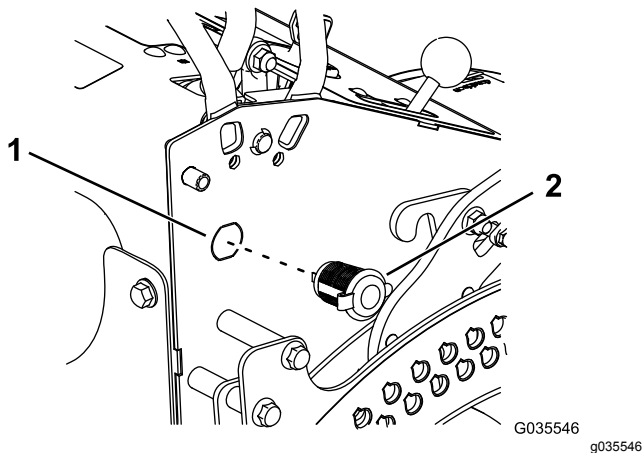

Figure 1
2. Remove the knockout on the right side of the machine (Figure 1).
4. Install the 12 V receptacle and secure it with the locking ring (Figure 1).